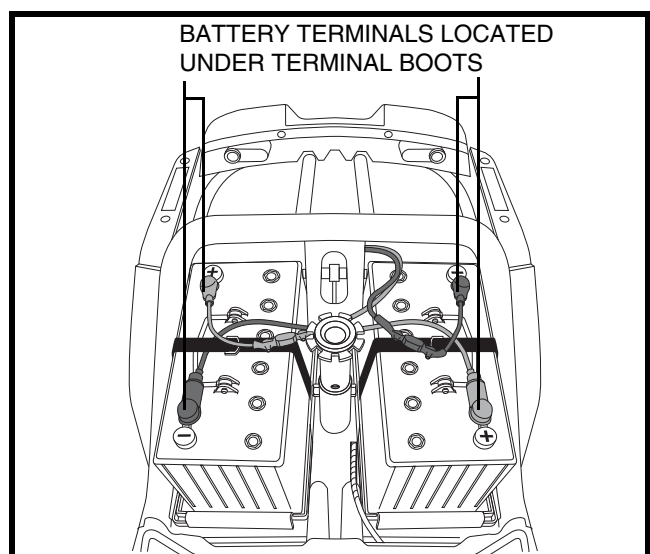

Figure 13. Battery Removal/Replacement
5. Disconnect the battery cables from the battery terminals by sliding back the terminal boots and unscrewing the nut from the bolt. **See figure 13.**